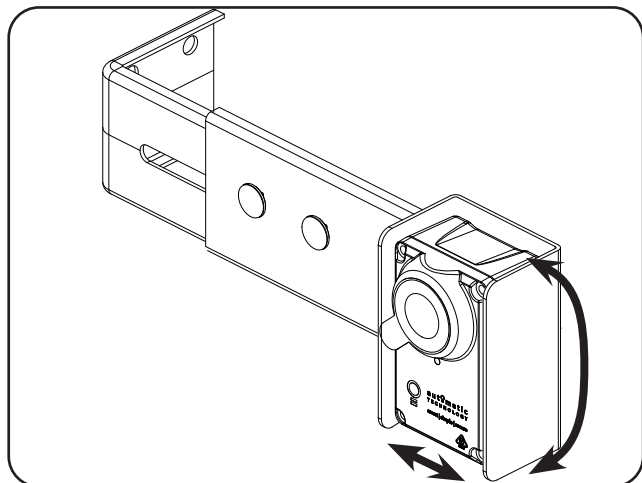

Fig 6.4.3
- Make horizontal and/or vertical adjustment on the transmitter and/or the receiver (Fig 6.4.3) until the red LED on the receiver turns on, indicating alignment.